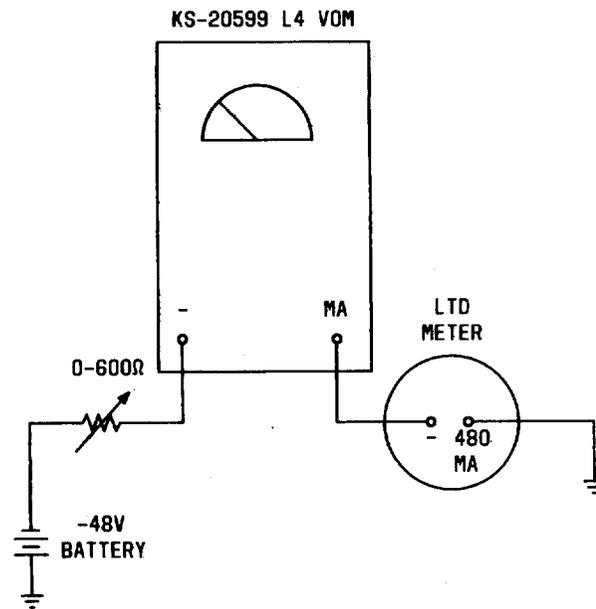

Fig. 3—Milliammeter Calibration Circuit—480mA Connection
- 15 Connect a KS-20599, L4 VOM in series with the LTD meter, the 0-600 ohm rheostat, (set for 600 ohms) and 48-volt battery as shown in Fig. 3. The lead to ground must be supplied for this test.